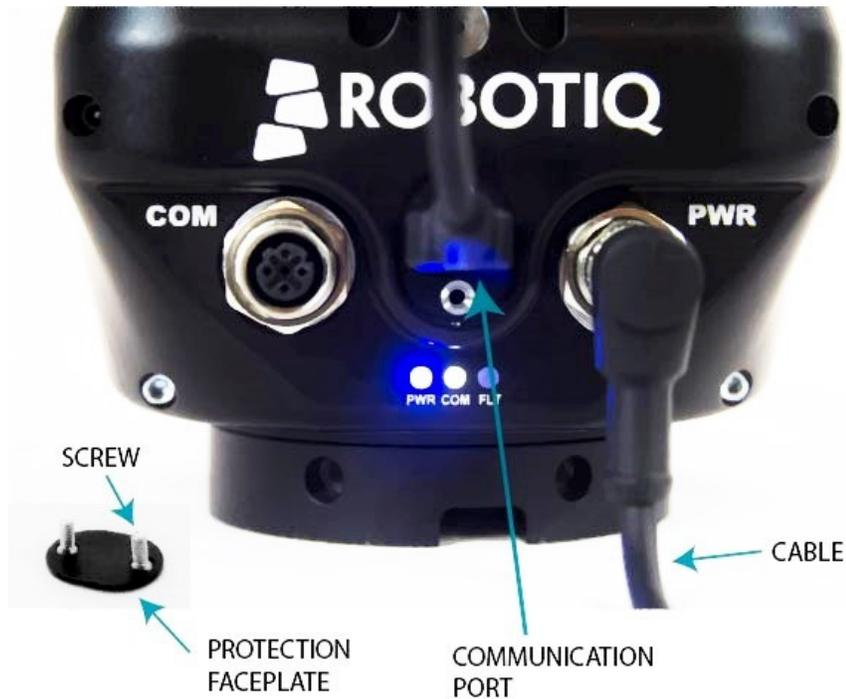

Fig. 3-5: Completed USB connection of the 3-Finger Adaptive Robot Gripper.
- b. Remove the USB port panel by unscrewing the two screws (shown in Fig. 3-5:). A Phillips screwdriver is needed.
- a. For 3-Finger Adaptive Robot Grippers : Replace the USB port panel by screwing back the two screws (shown in Fig. 3-5:). A Phillips screwdriver is needed.